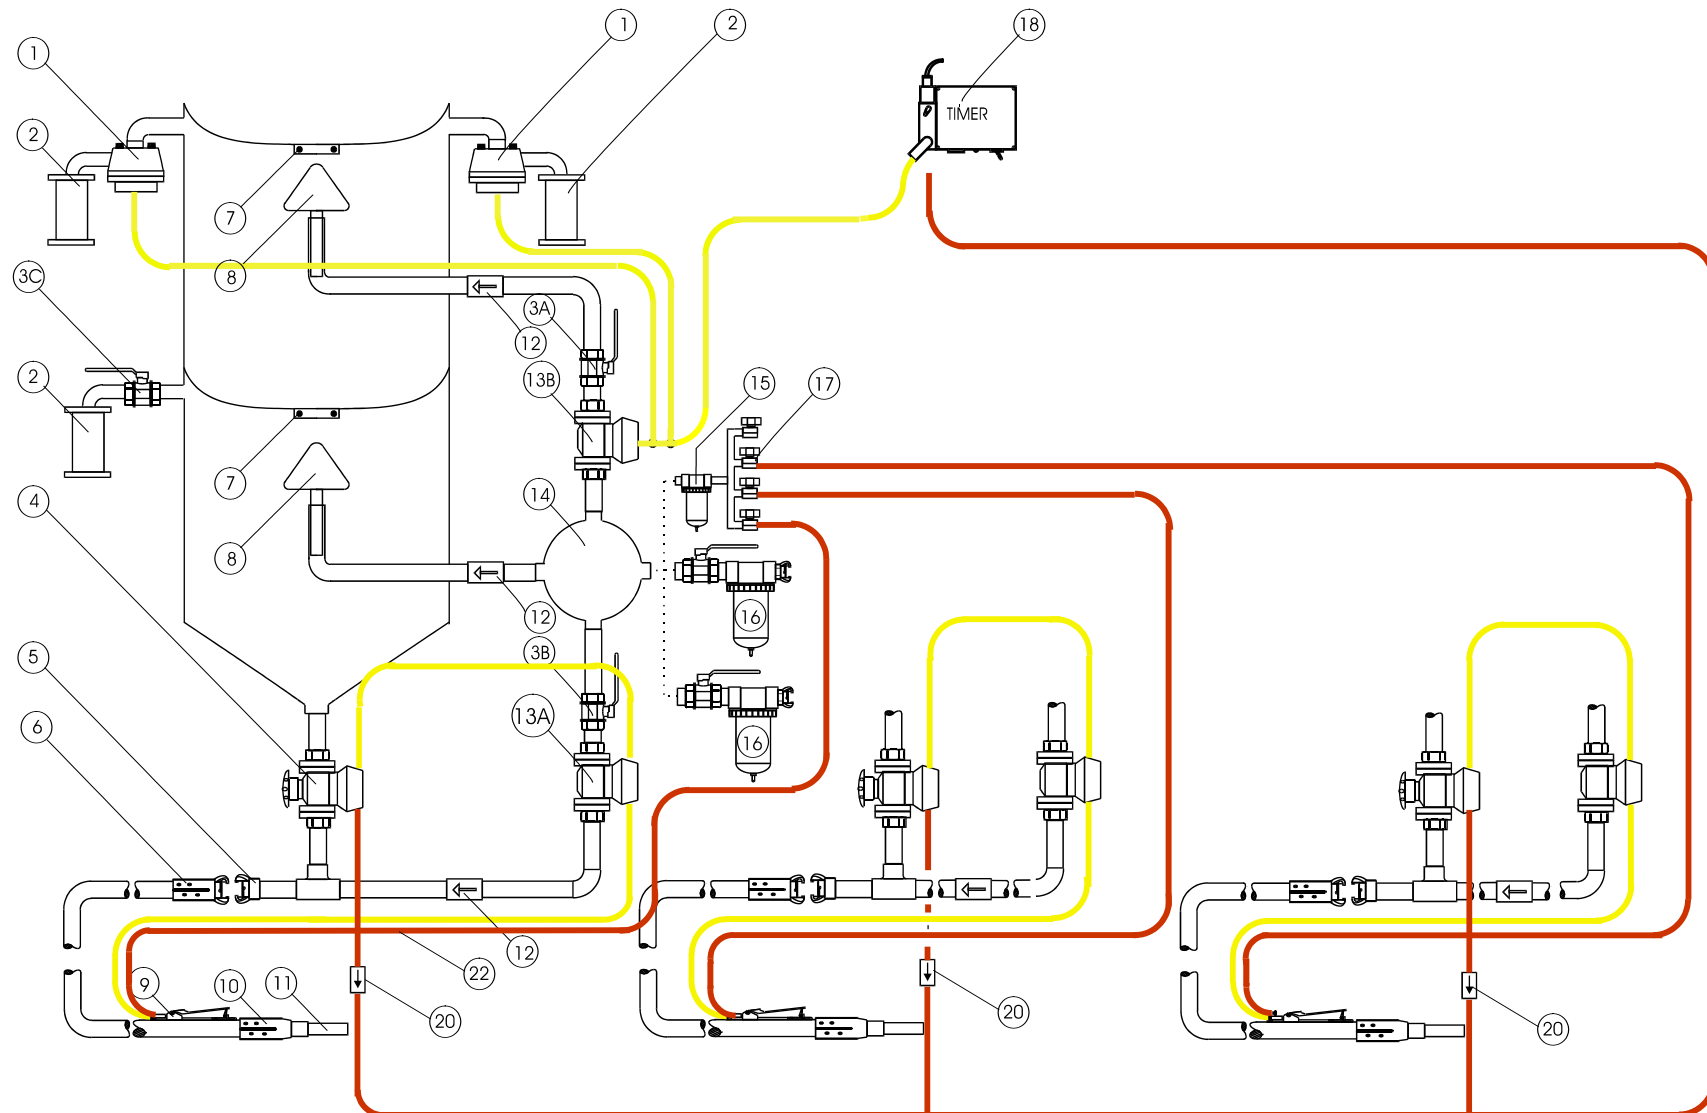

Figure 1 Dual chamber blast machine for 3 operators with pneumatic remote controls.
Figure 1 shows the main components of a dual chamber blast machine with pneumatic remote controls.
Figure 1 shows the main components of the dual chamber blast machine with remote controls:
3.1 How the system works (see figure 1)
3.2.1 Pneumatic remote controls (see figure 1)